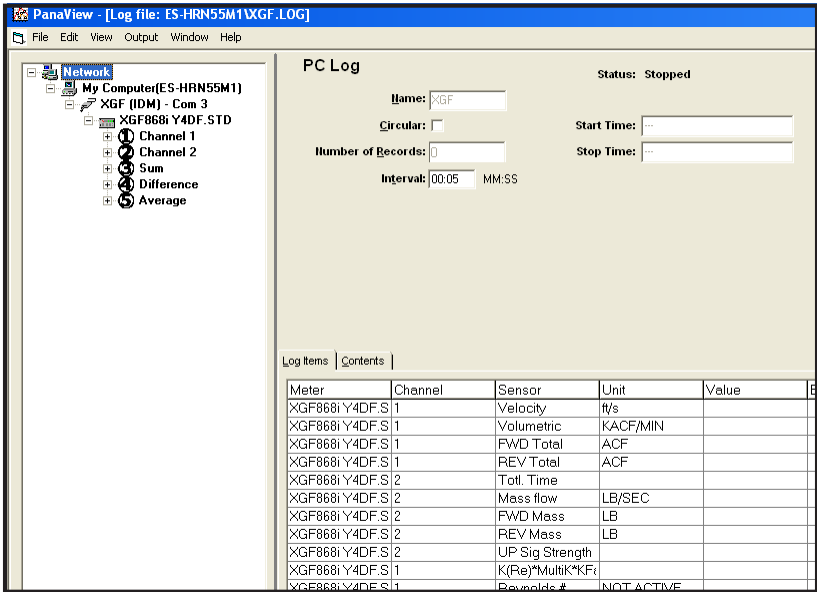

Figure 21: Typical Log Contents
- Click on the *Contents* tab (see Figure 21 on page 60) for a list of all the data points logged to date for the parameter currently highlighted on the *Log Items* tab.
Remember that only two parameters per channel may be graphed, and that the same two parameters must be graphed for each channel of a multi-channel graph display. When you have finished viewing the graph, click on the [Close] option button to close the Graph window and leave the log running. To review log details, click on the *Contents* tab. The window now appears similar to Figure 21.
- Click on the *Log Items* tab (see Figure 21 on page 60) for a list of the parameters specified for logging.